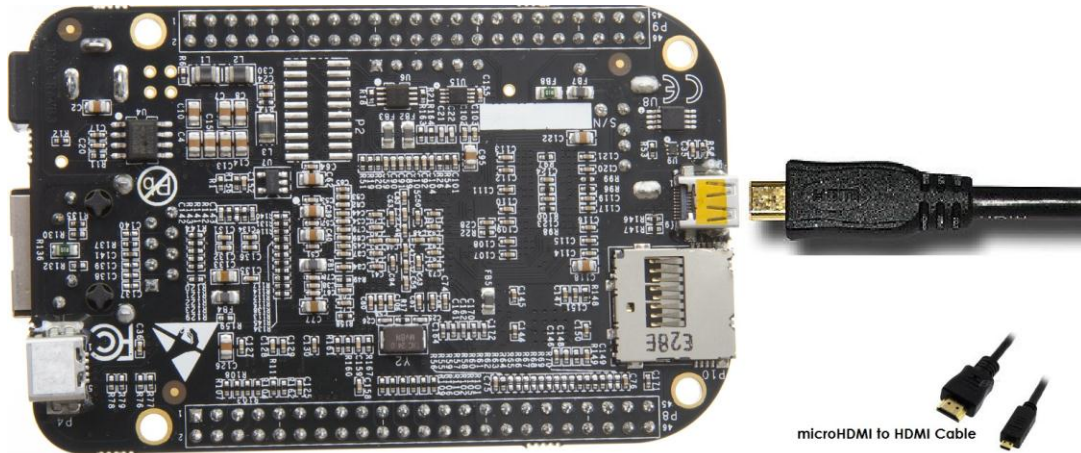

Figure 14. Connect microHDMI Cable to the Board
- The cable needed to connect to your display is a microHDMI to HDMI. Connect the microHDMI connector end to the board at this time. The connector is on the bottom side of the board as shown in **Figure 14** below.